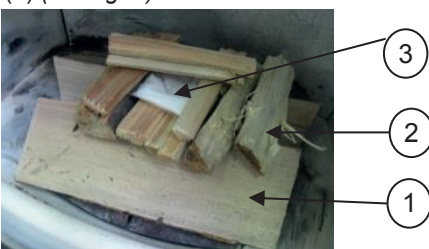

Fig. 5: ignite the fire
Place 2 - 3 logs (approx. 1,3 kg in total) crossways in the combustion chamber (1) with sufficient distance from each other (min. 2 cm), on top of that place some softwood chippings (approx. 0,5 kg) (2) and some ignition aid and light (3) (see fig. 5).